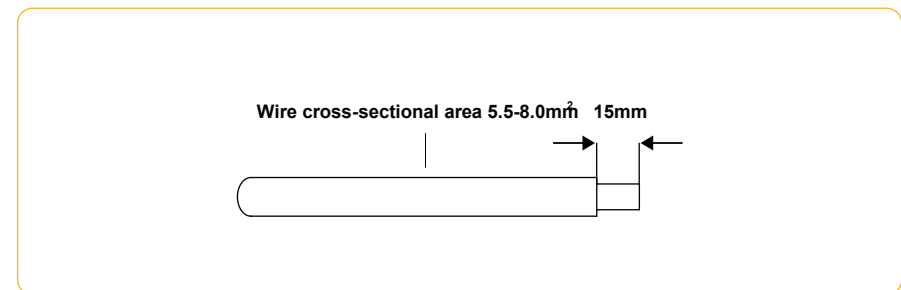

Figure 4-22
② Peel off the DC cable insulation sleeve for 15 mm, as shown in Figure 4-22: